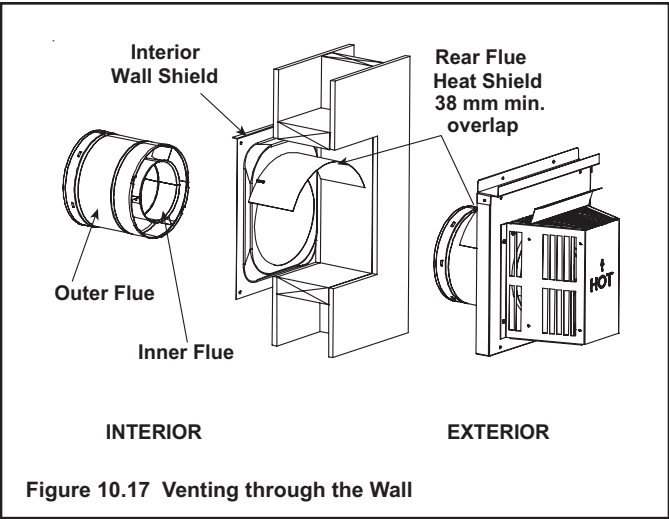

Figure 10.17 Venting through the Wall
- One section of the heat shield is attached to the wall shield. The other is attached to the termination cap in the same manner (see Figure 10.17).
- The small leg in the shield rests on top of the flue to properly space it from the pipe section (see Figure 10.17).